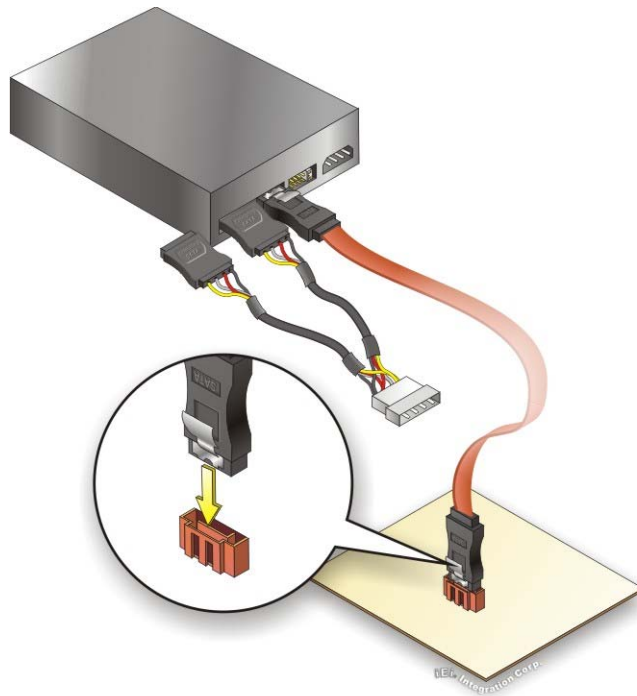

Figure 4-12: SATA Power Drive Connection
Step 3: **Connect the cable to the SATA disk.** Connect the connector on the other end of the cable to the connector at the back of the SATA drive. See **Figure 4-12**.
Step 4: **Connect the SATA power cable (optional).** Connect the SATA power connector to the back of the SATA drive. See **Figure 4-12**.